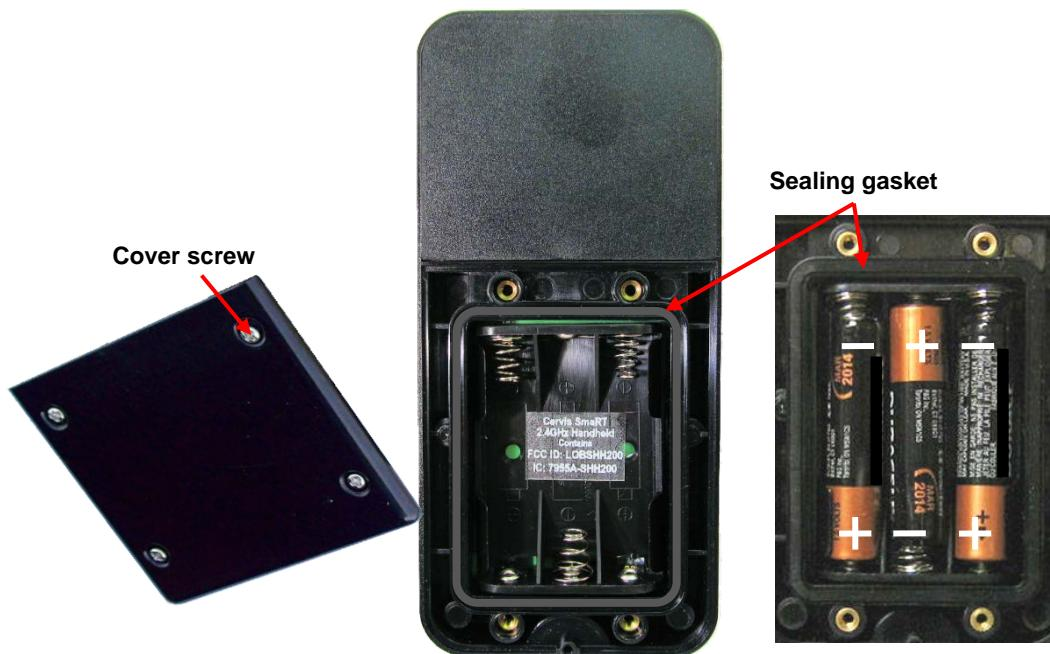

Figure 5. OO-2H02-7588 Handheld Remote Battery Installation
2. If installing batteries in an empty battery compartment, install three fresh size AAA batteries. Be sure to position the batteries as shown in Figure 5 below.
3. If replacing expired batteries, remove the old batteries and install three fresh size AAA batteries. Be sure to position the batteries as shown in Figure 5 below.